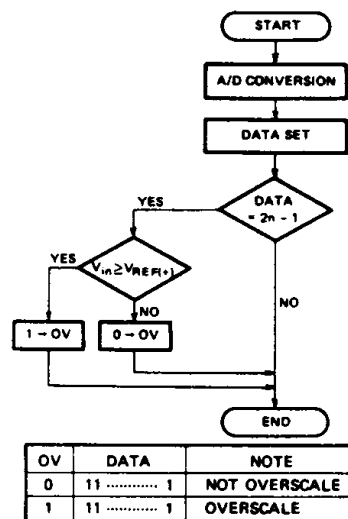
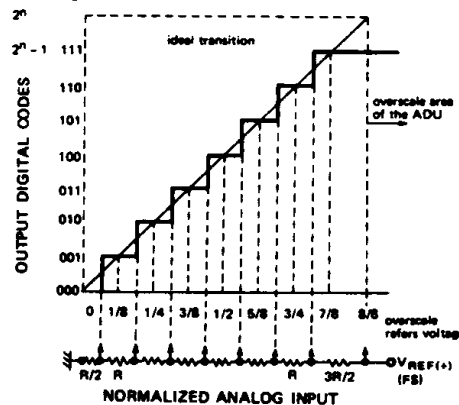

Figure 16 Overscale Check Flow
Figure 17 Definition ADU's Overscale
ADU is equipped with hardware overscale detection function. The overscale detection is performed automatically when the result of A/D conversion is 2^n-1 (all bits = 1). When analog input V_{in} is higher than $V_{REF(+)}$, overscale bit (OV) is set to "1". The definition of the overscale is illustrated in Fig. 17. And the flow of overscale check is shown in Fig. 16.